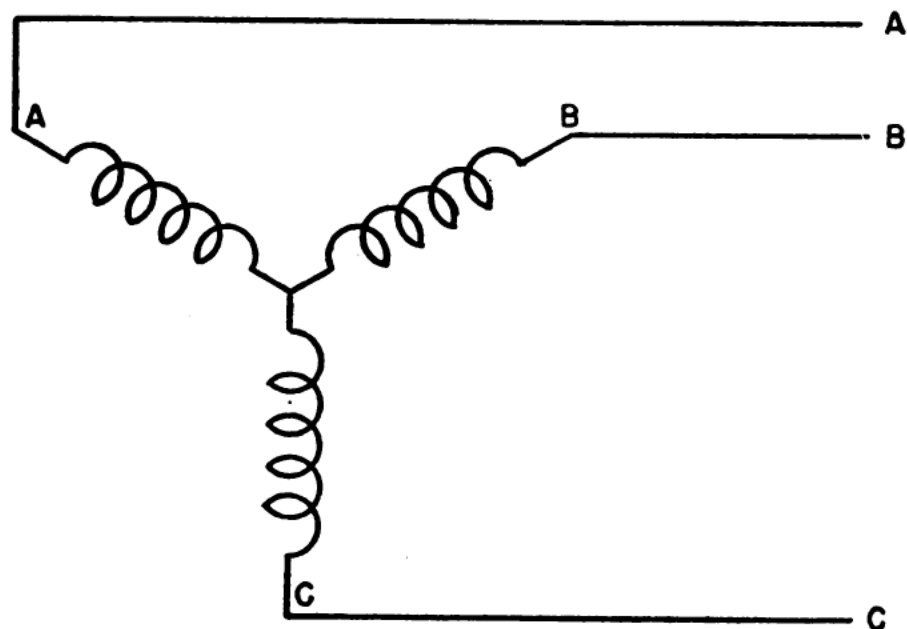

Figure 78.—Schematic of figure 77.
phase generators are usually connected. Schematic diagrams are shown in figure 78. This type of connection is known as STAR, or WYE (Y) CONNECTION. In many three-phase generators, the WINDINGS are placed on the frame or YOKE of the generator, and the FIELD is the ROTATING part. Thus, a positive con-